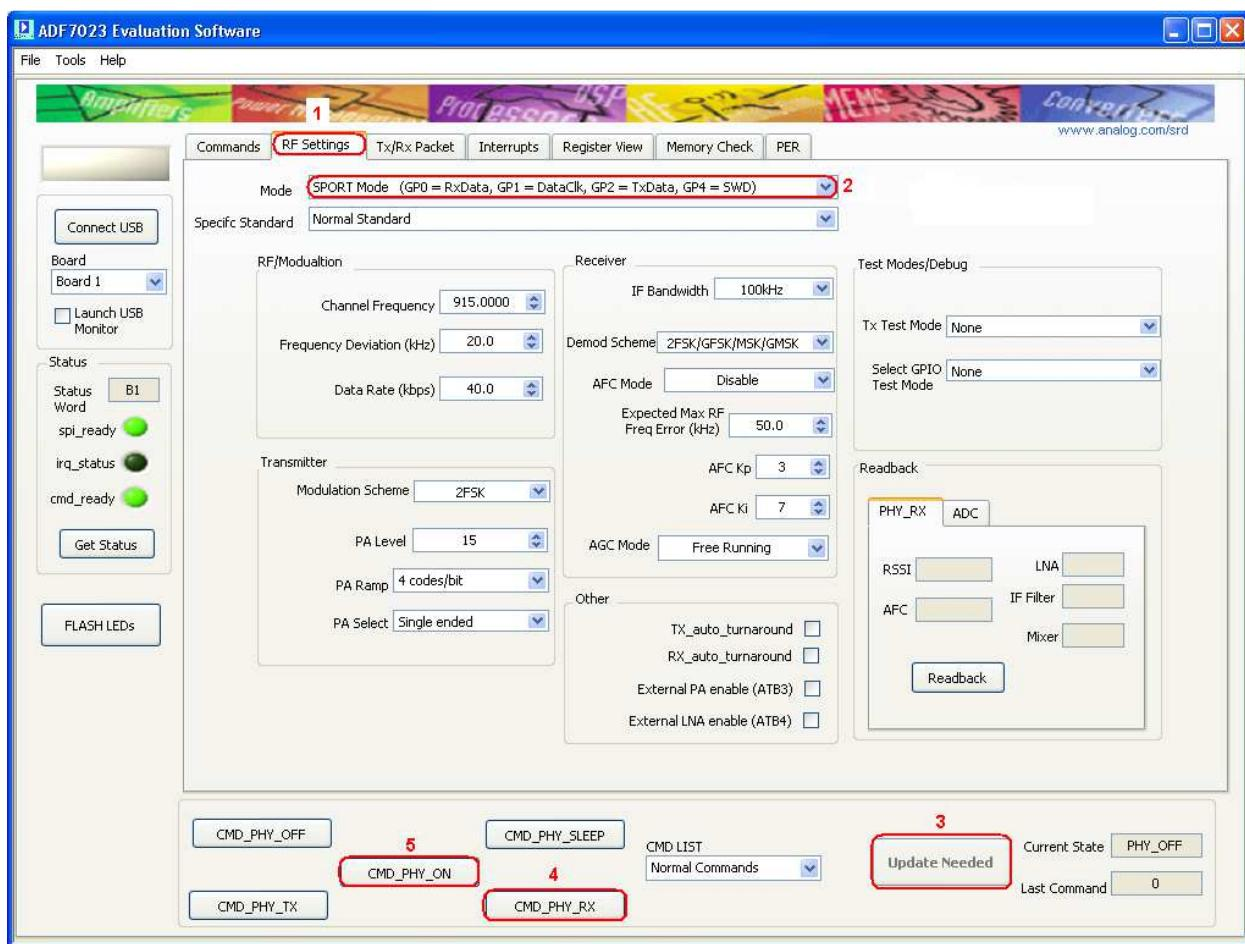

Figure 26
1. Select the “RF Settings” Tab and set the RF parameters as required. (*Figure 26 point(1)*)
2. If not already in **PHY_ON** enter this state by pressing **CMD_PHY_ON**. (*Figure 26 point (5)*)
3. Select the **SPORT Mode** (*Figure 26 point (2)*)
4. Press **Update Needed**. This writes the settings to BBRAM and then does a CMD_CONFIG_DEV. (*Figure 26 point (3)*)
5. Press **CMD_PHY_RX**. The part now enters PHY_RX. (*Figure 26 point (4)*)
6. To exit **PHY_RX** press **CMD_PHY_ON** (*Figure 26 point (5)*)